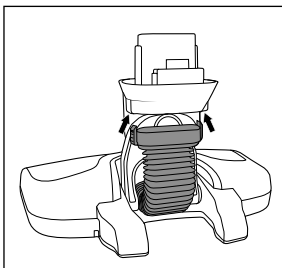

Fig. 18
- ◆ Slide the hose section over the fitting so that the release buttons **13** engage (see fig. 18).